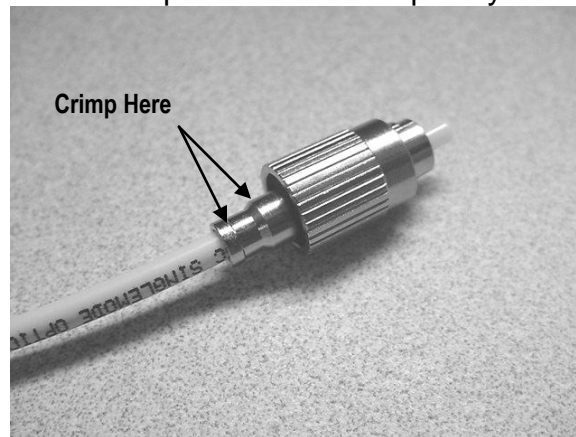

Figure 4
the Kevlar is evenly distributed around the body's back post as shown in figure 4.
9. Using the .178 Hex die on SENKO CRT-401 crimp tool crimp the crimp ring over the body's back post as shown in figure 4.
10. Using the .151 Hex die on SENKO CRT-401 crimp tool; crimp the crimp ring over the cable jacket as shown in figure 4.